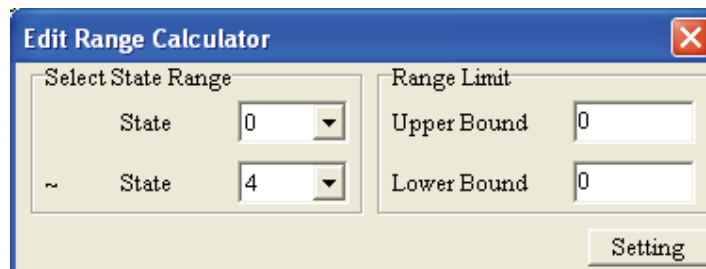

Figure 1-70
Step 5. After pressing Refer Value button, the following Edit Range Calculator tab (Figure 1-70) will appear and it could help to calculate the setting range value for all states.